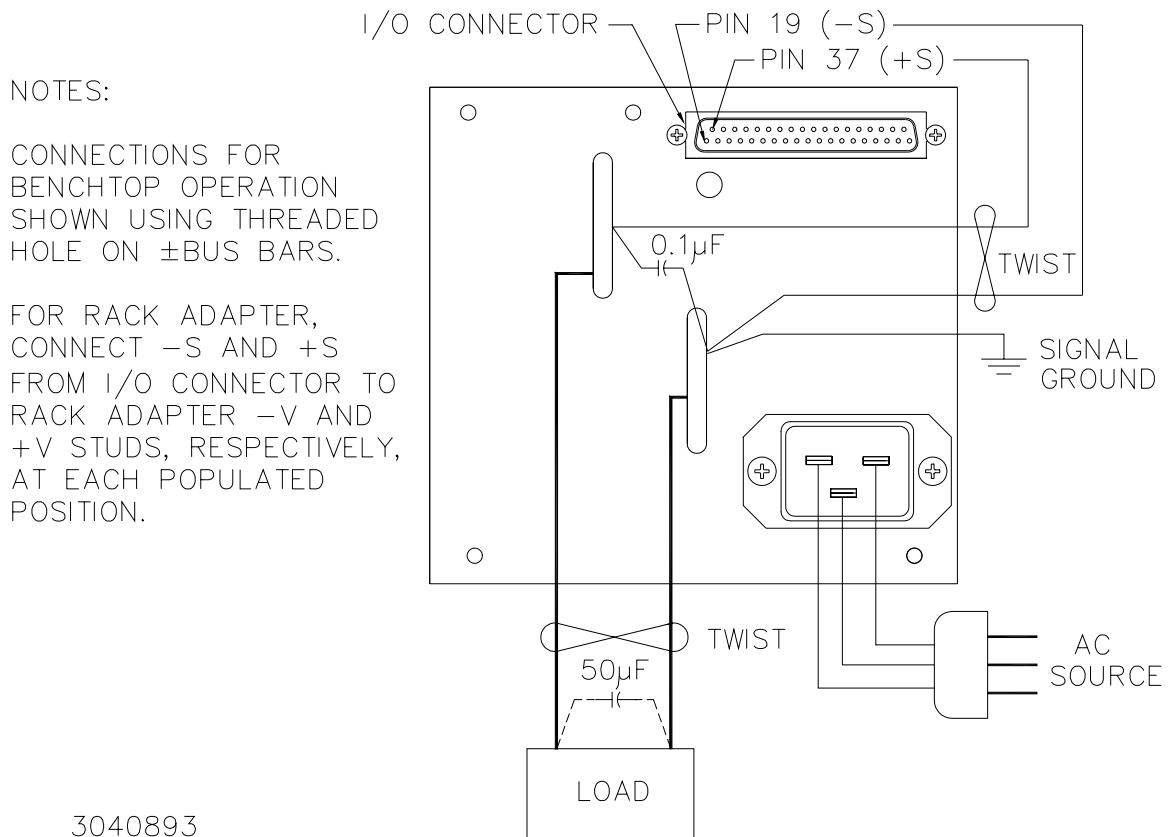

FIGURE 2-4. LOAD CONNECTION - METHOD I (LOCAL ERROR SENSING)
1. THE POWER SUPPLY WILL NOT OPERATE UNLESS THE REMOTE SENSE LINES ARE PROPERLY CONNECTED TO THE OUTPUT TERMINALS! Connect the remote sense terminals to the output bus bars using the mating I/O Connector (Kepco P/N 142-0422) or other means as shown in PAR. 2.7.5.1 and Figure 2-4.
The most basic power supply/load interface is a 2-wire connection between the power supply output terminals and the load. This connection method employs local error sensing which consists of connecting the error sense leads directly to the power supply's output terminals. Its main virtue is simplicity: since voltage regulation is maintained at the power supply output, the regulation loop is essentially unaffected by the impedances presented by the load interconnection scheme. The main disadvantage is that it cannot compensate for losses introduced by the interconnection scheme and, therefore, regulation degrades directly as a function of distance and load current. The main applications for this method are for powering primarily resistive and relatively constant loads located close to the power supply, or for loads requiring stabilized current exclusively. The load leads should be tightly twisted to reduce pick-up. See Figure 2-4.
All HSP power supplies are equipped with remote error sensing to compensate for the voltage drop inherent in any power supply/load interconnection scheme. The amount of compensation varies based on output voltage: 3.3V and 5V models compensate up to 0.25V drop in each power lead (0.5V total), while 12V through 48V models provide for up to 0.8V drop in each lead (1.6V total). ***The remote error sense leads must be connected to the output power terminations, either locally at the power supply output terminals or remotely at the load terminations, using the correct polarity, for the HSP to operate properly.*** (See Figures 2-4 through 2-7.)
2. With source power removed, connect load as shown in Figure 2-4 for local sensing, except remove connection between I/O connector pin 37 (+S) and the output bus bar and substitute a 20K ohm potentiometer between pin 37 and the output bus bar; adjust the pot for minimum resistance.